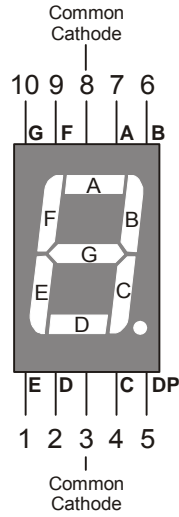
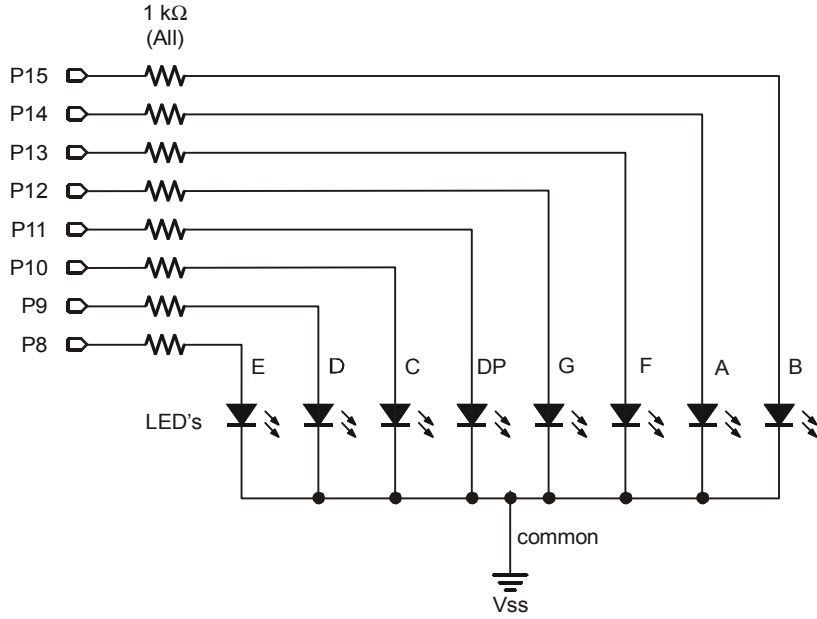
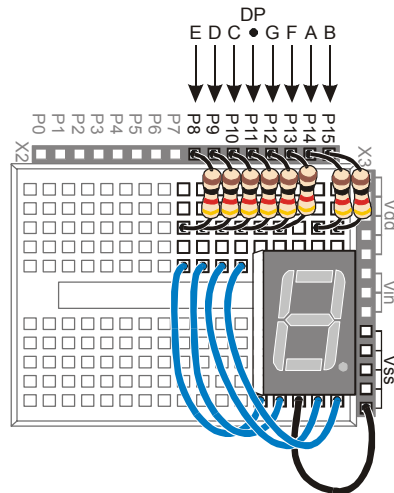

Figure 6-2
Figure 6-10
Figure 6-11
A 7-segment display is rectangular block of 7 lines of equal length that can be lit selectively to display digits and some letters. A very common form is the 7-segment LED display, a package with a rectangular block of 7 LEDs. Figure 6-2 shows a part drawing of the 7-segment LED display you will use in this chapter's activities. It has one additional LED, a dot that can be used as a decimal point. Each of the segments (A through G) and the dot contains a separate LED, which can be controlled individually. Most of the pins have a number along with a label that corresponds with one of the LED segments. Pin 5 is labeled DP, which stands for decimal point. Pins 3 and 8 are labeled "common cathode", and they will be explained when the schematic for this part is introduced.
Pin Map: Figure 6-2 is an example of a pin map. A pin map contains useful information that helps you connect a part to other circuits. Pin maps usually show a number for each pin, a name for each pin, and a reference. Take a look at Figure 6-2. Each pin is numbered, and the name for each pin is the segment letter next to the pin. The reference for this part is its overall appearance. You know by looking at the top of the display that pin 1 is closest to the lower-left corner of the display. Other parts have more subtle references, such as the flat spot on a regular LED's case.
- ✓ Using the pin map from Figure 6-2 as a guide, repeat these steps for segments C through G.
Figure 6-10 shows the schematic and Figure 6-11 shows the wiring diagram for this BASIC Stamp controlled 7-segment LED display example.
- √ Build the circuit shown in Figure 6-10 and Figure 6-11.
Schematic and pin map: If you are trying to build the circuit from the schematic in Figure 6-10 without relying on Figure 6-11, make sure to consult the 7-segment LED display's pin map (Figure 6-2, page 166).
Be careful with the resistors connected to P13 and P14. Look carefully at the resistors connected to P13 and P14 in Figure 6-11. There is gap between these two resistors. The gap is shown because pin 8 on the 7-segment LED display is left unconnected. A resistor connects I/O pin P13 to 7-segment LED display pin 9. Another resistor connects P14 to 7-segment LED display pin 7.